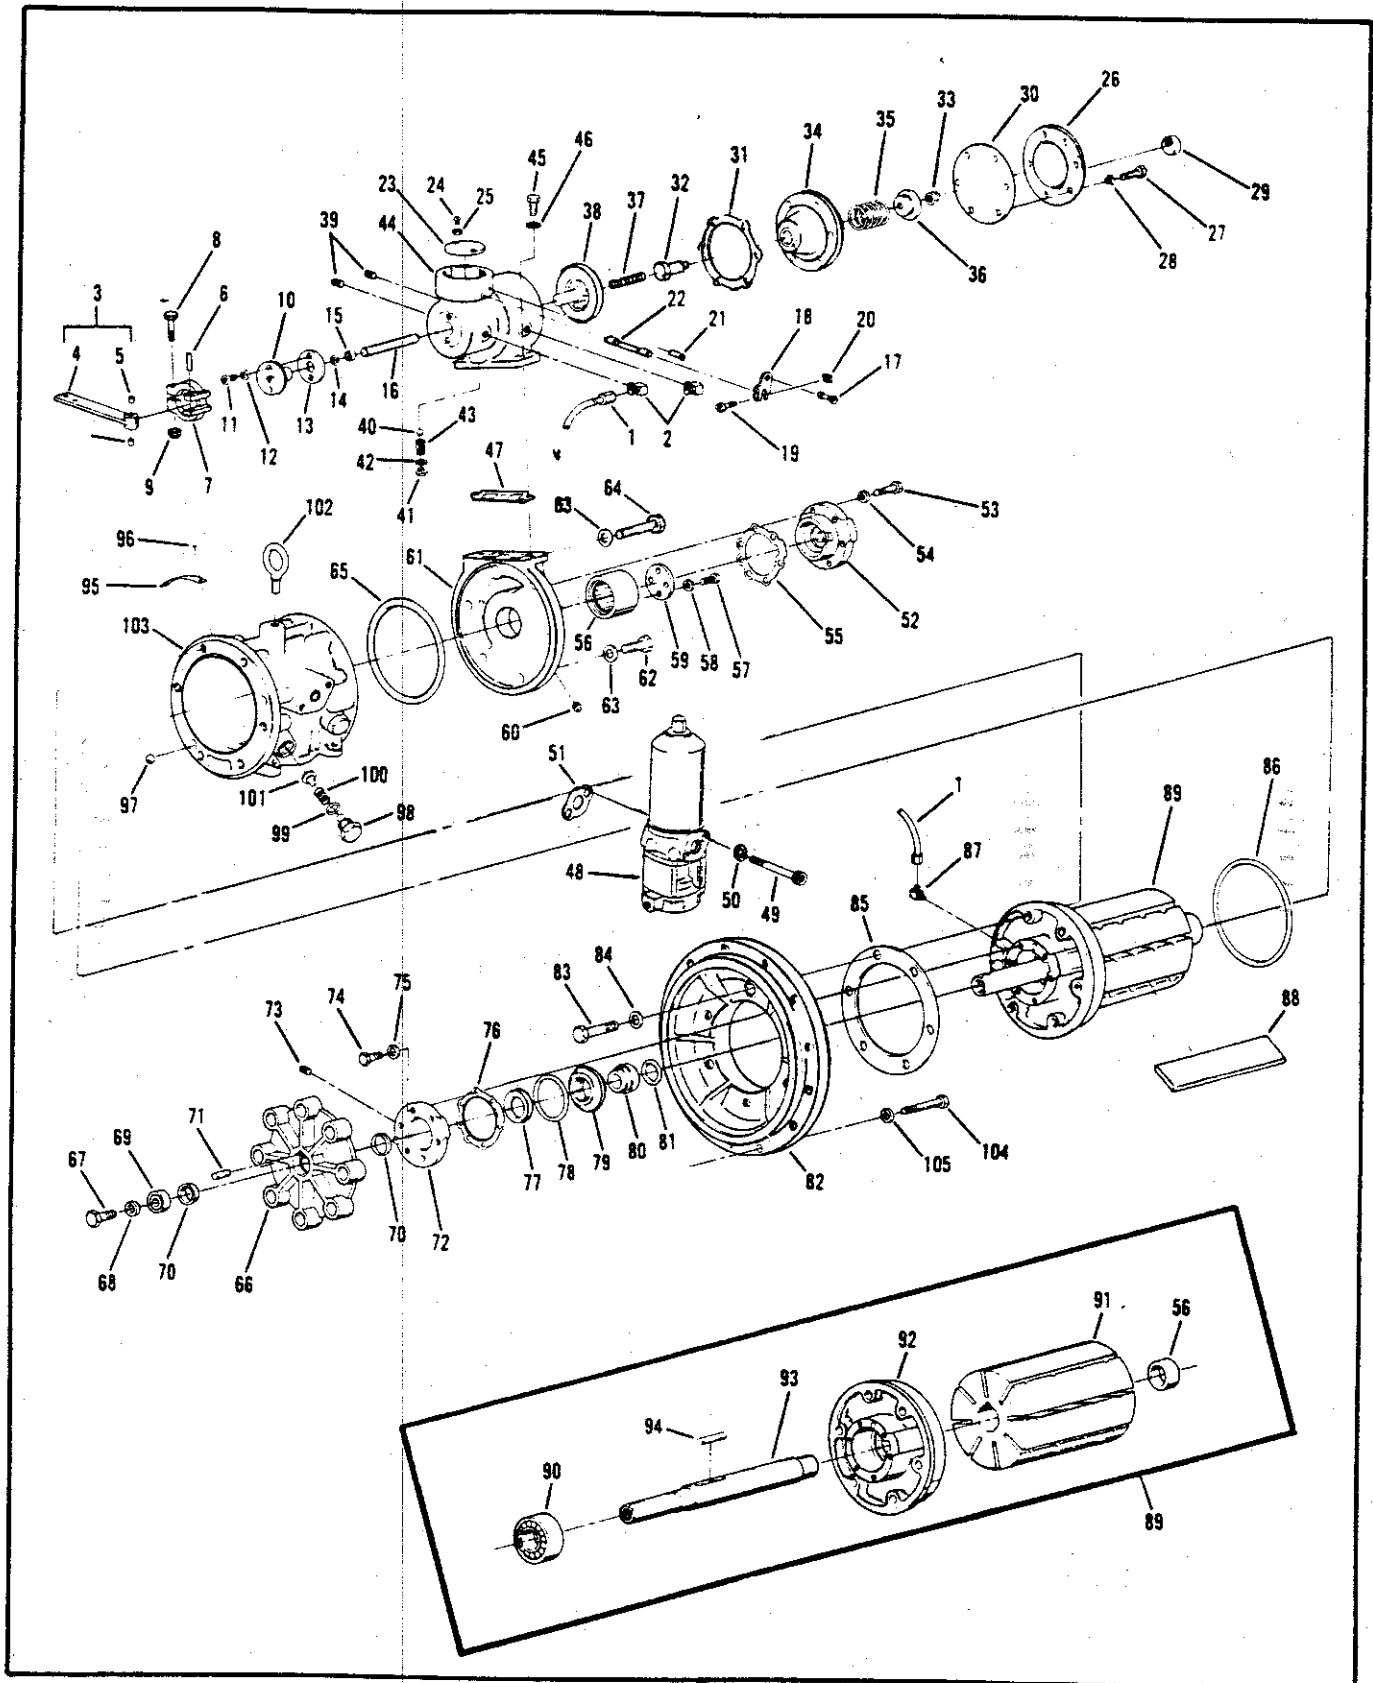
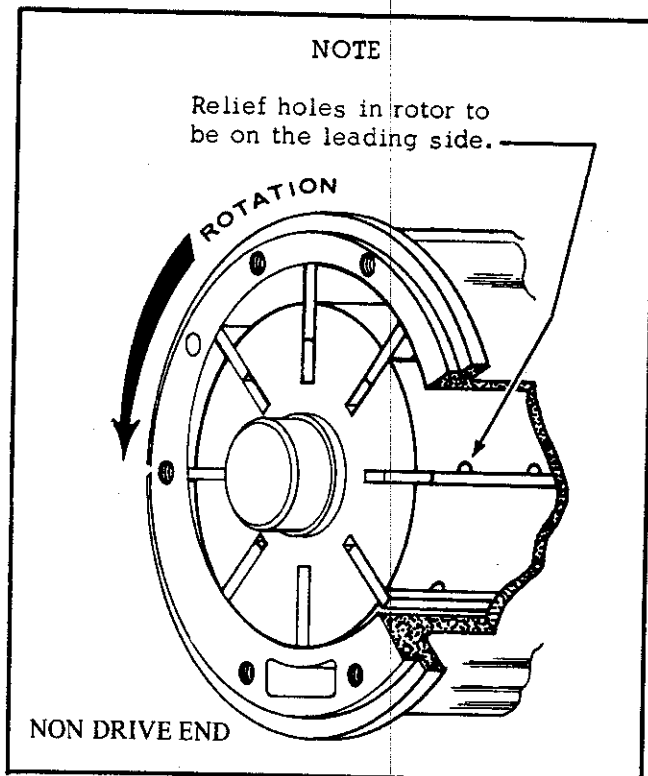
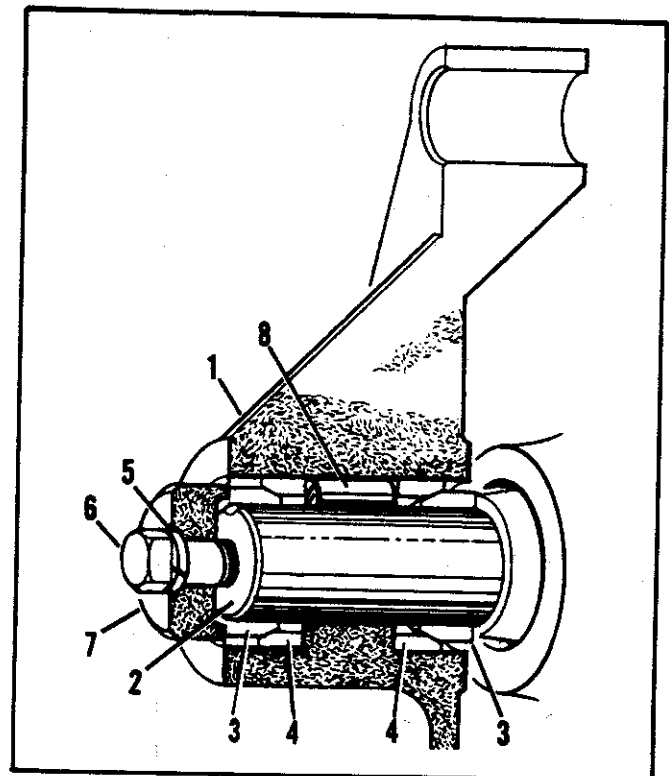

Figure 5-18. Compressor Group
Figure 3-4. Compressor rotor installation
Figure 3-5. Gripspring installation
a. Disassembly of Air Compressor. (Fig. 5-18). Disconnect all tubing or hose assemblies and the intake control cable and cable clip. For blade and rotor inspection, it is only necessary to remove nondrive end cover (61) with intake control and bearing cover attached. To remove intake control body (44), parts (27 thru 38) must be removed to gain access to bolt (51) within the intake control body.
ing instructions. Heat bearing inner races (1 and 7) evenly in hot cooking oil to a maximum of 350°F. Install inner race (7) on shaft to shoulder. Assemble outer race (6) and spacer (5) on bearing inner race. Press bearing and shaft into cover (9). Place key (3) in shaft and slide rotor on shaft, making sure relief slots in rotor are leading in the direction of rotation (Fig. 3-4). Place heated bearing inner race (1) on shaft to shoulder. Complete assembly, referring to Figures 5-18 and 3-5.
b. Hold O-rings (65 and 86, Fig. 5-18) in place on end covers (61 and 92) with grease until secured in reassembly.
c. Gripsprings: During reassembly of the compressor, it is essential that the gripsprings (70, Fig. 5-18) be installed in the correct sequence. Improper installation of the gripsprings will result in slippage between the shaft and the coupling and cause excessive wear. Refer to Figure 3-5 and assemble the gripsprings as follows:
(1) Install smaller gripspring (3) on shaft (2) with beveled edge out.
(2) Position larger gripspring (4) over gripspring (3) so that the beveled edges meet.
(3) Install key (8) on shaft. Slide coupling (1) on shaft and over key and gripsprings until it seats.
(4) Position second larger gripspring (4) in coupling with beveled edge facing outward.
(5) Install second smaller gripspring (3) on shaft. Be sure beveled edges of gripsprings (3 and 4) match.
(6) Position gripspring retainer (7) and secure with washer (5) and bolt (6).